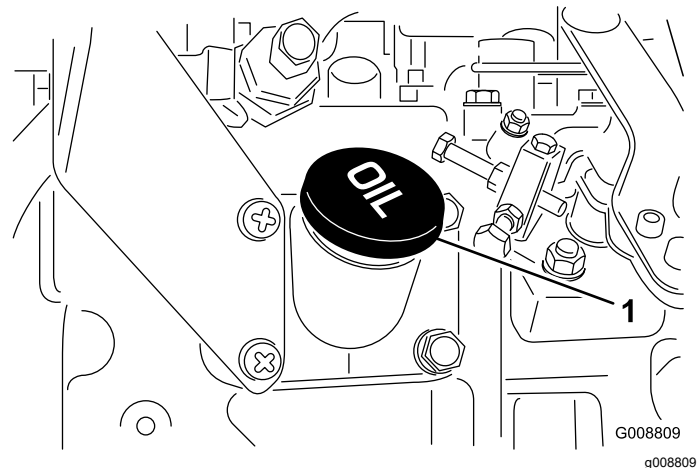

Figure 36
4. If the oil is below the safe range, remove the fill cap (Figure 36) and add oil until the level reaches the Full mark.